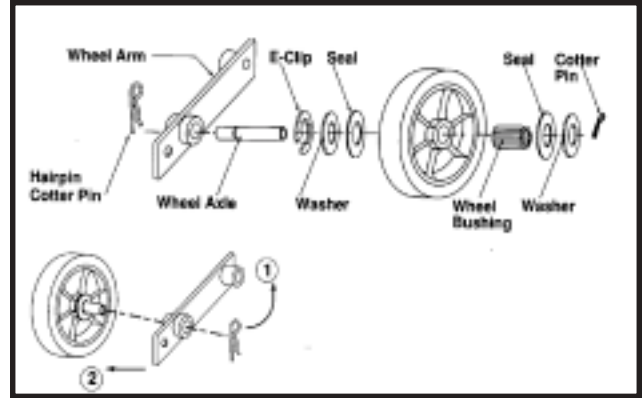

Figure 16
4. Remove the hairpin cotter pin. (see Figure 16)
5. Slide the wheel assembly off the machine. (see Figure 16)